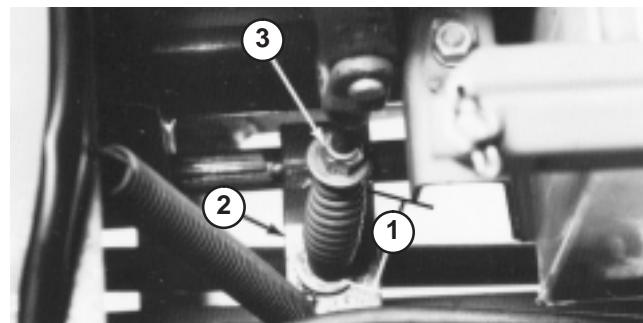

Figure 62
3. Measure length of PTO spring between flat-washers (Fig. 62). There should be a spring length of 3-3/16 in. (81 mm).
4. To adjust, hold head of adjusting screw with wrench (under PTO actuating arm) and turn locknut (Fig. 62).